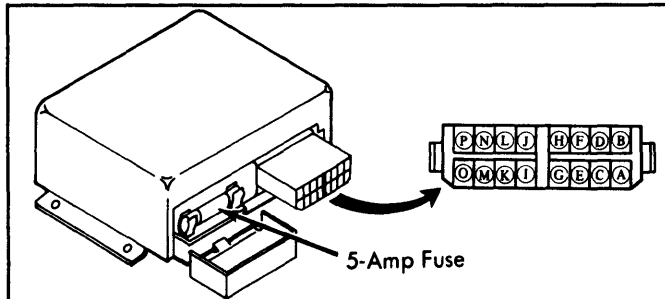

Fig. 1: Control Unit Terminal Identification (All Models Except California)
**All Models (Except California)** - 1) Check condition of 5-amp fuse. Fuse is located under cover, on side of control unit. See Fig. 1. Check that current flows to terminals "A" and "B" when engine is operating at idle (about 3-8 volts).